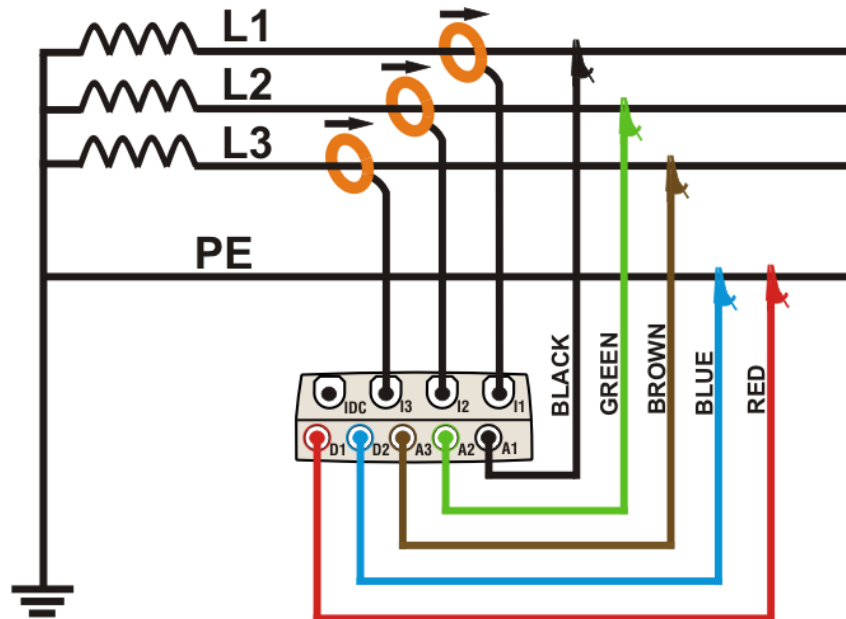

Fig. 167: Meter connection in a three phase 3-wire system
2. Connect voltage test leads on Phases L1, L2, L3, and Ground cables respecting the colours as shown in Fig. 167. **Verify the result "123" at display relative to a correct phase sequence indication** (see § 5.2.4.1) and perform the corrections if necessary.
3. Connect the transducer current clamps on Phase L1, L2, L3 cables as shown in Fig. 167 respecting the clamp's arrow direction indicating the current standard sequence from generator to load. **On Real Time Values' section screens always verify the positive value of Active Power and the power factor relative to load which should be normally inductive** before starting a recording. Reverse the clamp by 180 degrees on cables in case of negative readings.